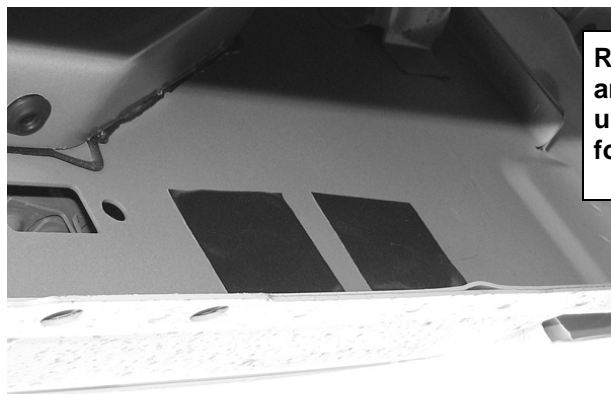

Fig 4
4. Moving to the rear, locate the factory large round hole and smaller oval hole in the inner body panel. **NOTE:** Mounting holes may be covered with sealing tape, **(Figure 4)**. Remove tape to uncover mounting locations. Select (1) 12mm Double Bolt Plate and insert it into the larger round opening and out the smaller oval hole. Next, thread (1) 11mm Plastic Retainer onto the threaded end so that the retainer covers the smaller of the two holes, **(Figure 5)**. Thread the Retainer all of the way down to the sheet metal. **NOTE:** When properly installed, the Plastic Retainer is designed to prevent the Bolt Plate from falling into the body cavity during installation.